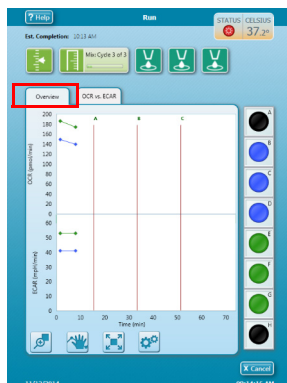

Figure 8. Overview tab
- 5 **Overview** and **OCR vs. ECAR** are the two run-time views available as data is acquired by the XFp Analyzer. Click either tab to toggle between the views during the assay. See **Figure 8** on page 23.
The **Overview** tab displays both OCR and ECAR as a function of time. Red vertical lines indicate the injections and are labeled by injection port letter. See **Figure 8**.